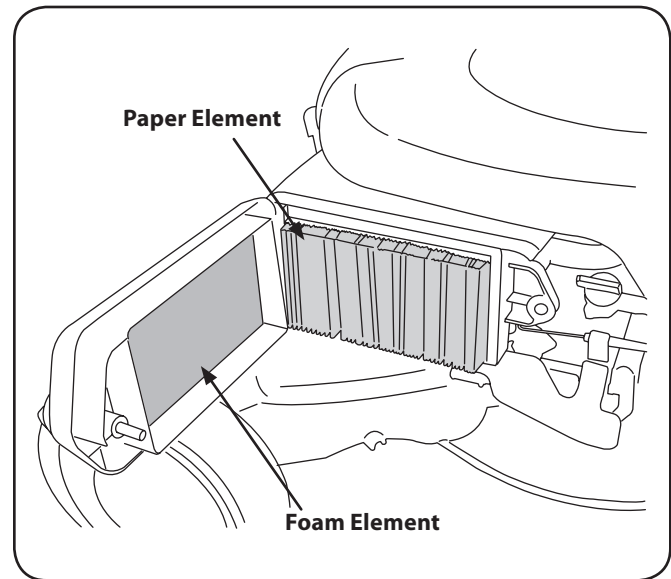

Figure 11-2
1. Remove the wing bolt and the air cleaner cover. Remove the elements and separate them. See Fig. 11-2. Replace paper element when dirty or damaged. Clean foam element or replace when damaged.